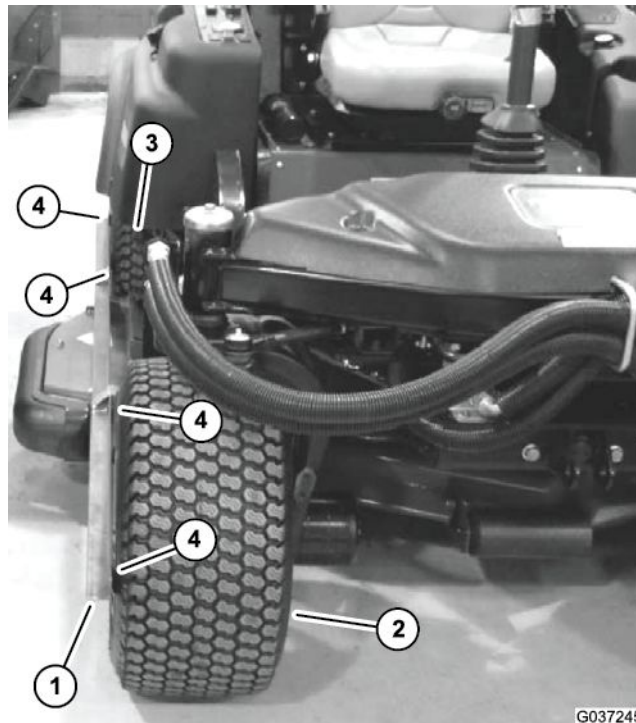

Figure 260
8. With both alignment tools installed, place a rigid straight edge (e.g., angle iron, metal pipe) that is at least 2 m (80 inches) long against the sides of the front and rear tires on one side of the machine (Figure 260). The straight edge should contact the tires at 4 points if the wheel alignment is correct.